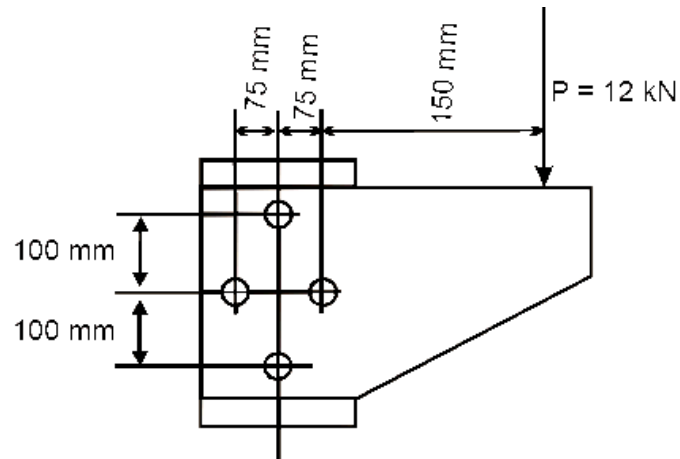

Figure 1
- Q.4 (a)** Determine diameter of rivets for Figure 1, if permissible shearing stress is 65 N/mm^2 . Assume all rivets have same diameter. **07**